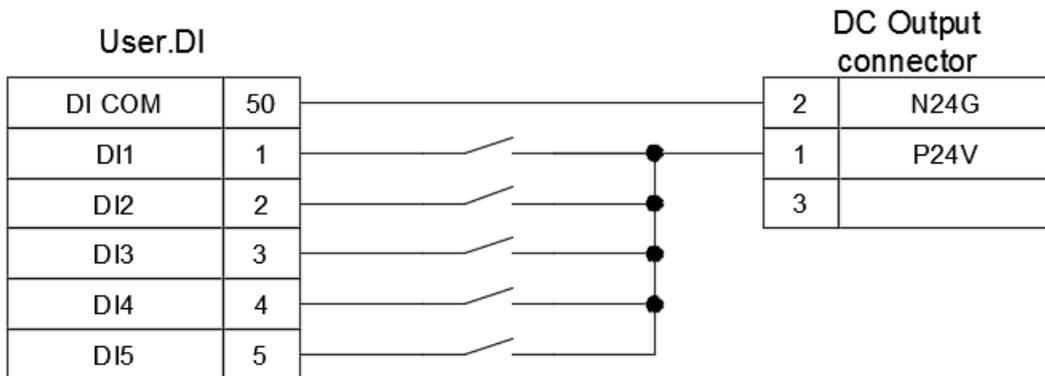

Figure 7.11 PNP wiring for when the input signal DI uses power of the controller
- The PNP wiring method is as shown in Figure 7.11 below; please connect DI COM (Pin50) of User.DI/O (D Sub-50P) to N24G (Pin2) of the DC output, and connect the output signals including buttons, switches, and sensors etc. to DI.